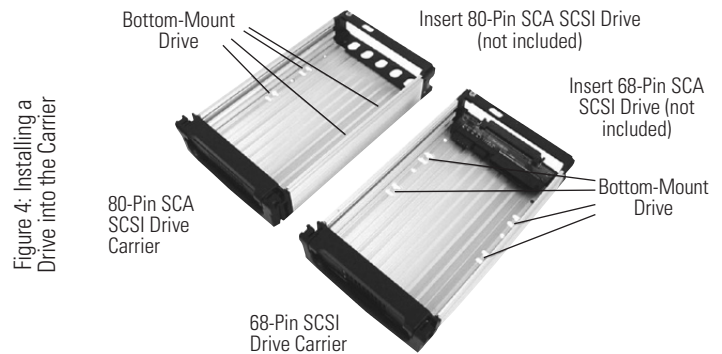

Figure 4: Installing a Drive into the Carrier
3. Bottom-mount the drive into the carrier with four (4) Phillips screws (Figure 4). Reinstall cover onto the carrier.